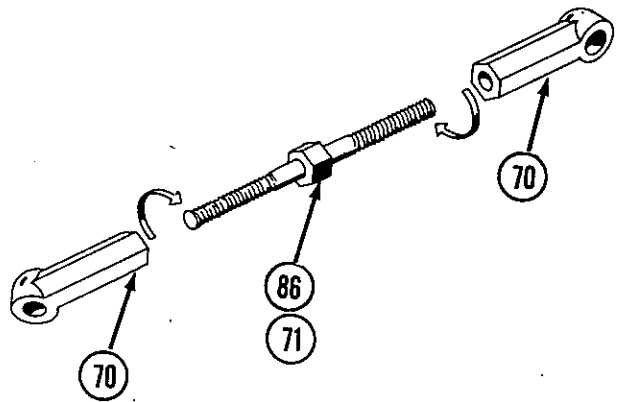

FIG. 37
13. Thread an adjustable rod end (70) onto each end of a 1 1/2" turnbuckle (86). Repeat once more. Fig. 37.
14. Thread an adjustable rod end (70) onto each end of a 1 7/8" turnbuckle (71). Repeat once more. Fig. 37.
- * NOTE: One end of turnbuckle has left hand threads. Fig. 37